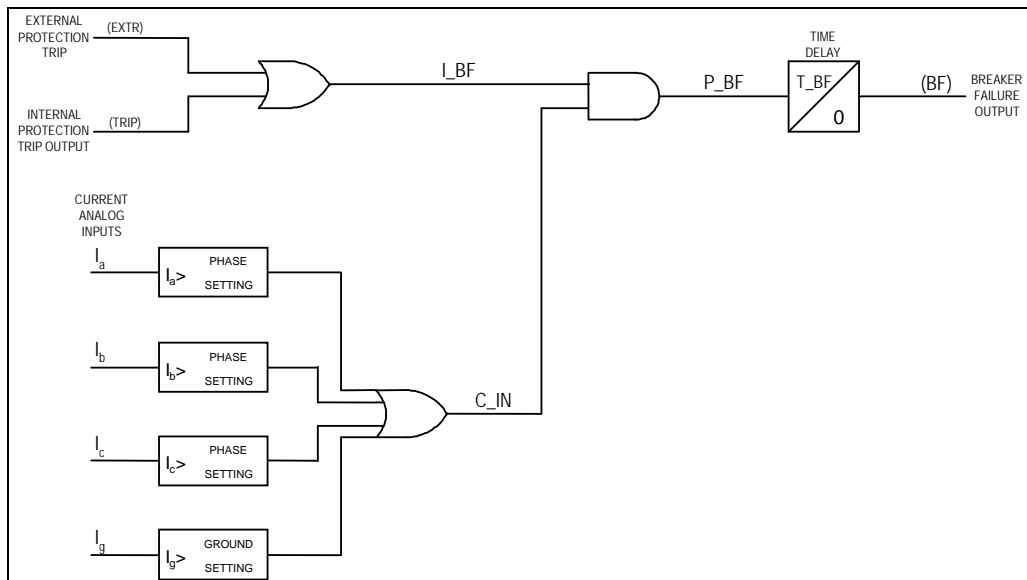

Figure 6.23: Breaker Failure Element Block Diagram
The operation of this function is shown in the block diagram of Figure 6.23. The breaker failure initiate signal (I_BF) is activated through a trip command generated by the Terminal Unit Internal Protection elements (TRIP) or an External Protection Trip input (EXTR). Once the I_BF signal is activated and current is still detected by the Terminal Unit (C_IN signal), the breaker failure signal (P_BF) starts the counter for the Breaker Failure Time Delay (T_BF). If T_BF times out before either I_BF resets, indicating that the conditions which initiated breaker failure are no longer present, or C_IN resets, indicating that there is no current detected by the Terminal Unit, the Breaker Failure Output (BF) is activated. The reset of either the I_BF or C_IN signal causes the T_BF timer to reset and stop the breaker failure process.